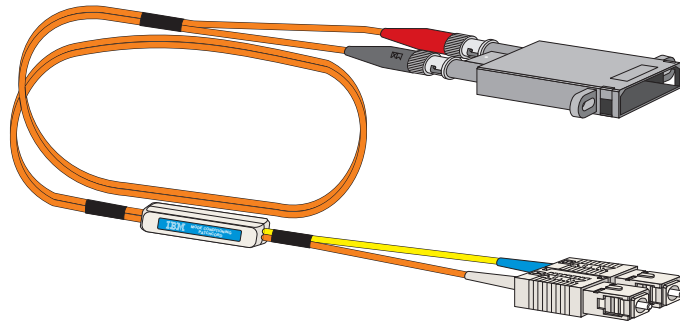

Figure 6-22. Mode Conditioning Patchcord
- You can connect multimode fiber optic cable to the FCV port card's FCS/SC duplex connector using a mode conditioning patchcord (part number 21L4175). Refer to Figure 6-22. Plug the IBM multimode cable's duplex connector into the patchcord's multimode duplex connector and the patchcord's FCS/SC connector into the FCV port card.